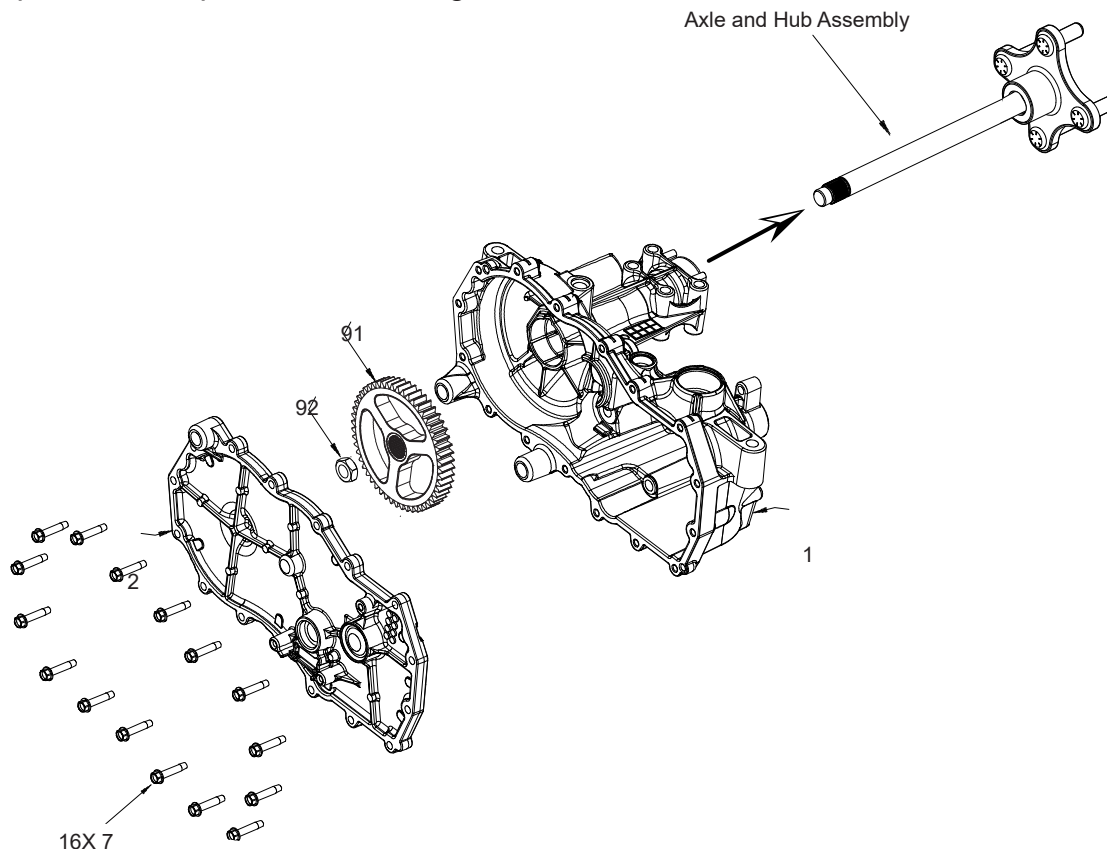

Figure 1. Taper Lock Shaft/Hub Design Removal.
Refer to Figure 1.
2. Remove the side housing screws (7).
3. Remove side housing (2).
4. Remove axle retaining nut (92).
5. Remove bull gear (91).
6. Slide axle shaft and hub assembly out of main housing in the direction of the arrow (Figure 1).